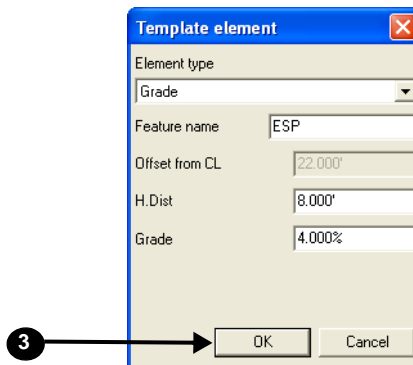

Figure 6-39. Edit Element Parameters and Update Template
- On the **Template element** dialog box, edit the desired parameters and press **OK** (Figure 6-39). The fields differ depending on the element type selected.